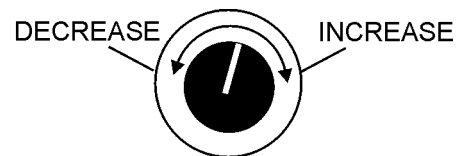

Figure 35. Voltage Adjust Control Knob
9. If the voltage is not within the specified tolerance, use the voltage adjustment control knob (Figure 35) to increase or decrease the desired voltage.